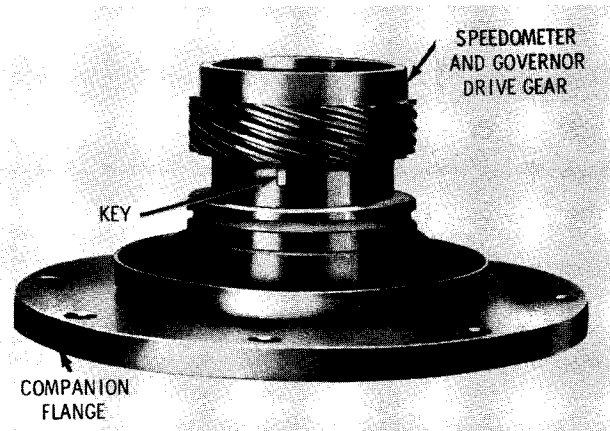

Fig. 7-10. Installing drive gear on flange
(5) Insert the speedometer and governor drive gear key into the keyway of the companion flange (fig. 7-10). Install the gear on the flange. If necessary, tap the gear with a soft hammer to seat on the shoulder of the flange.